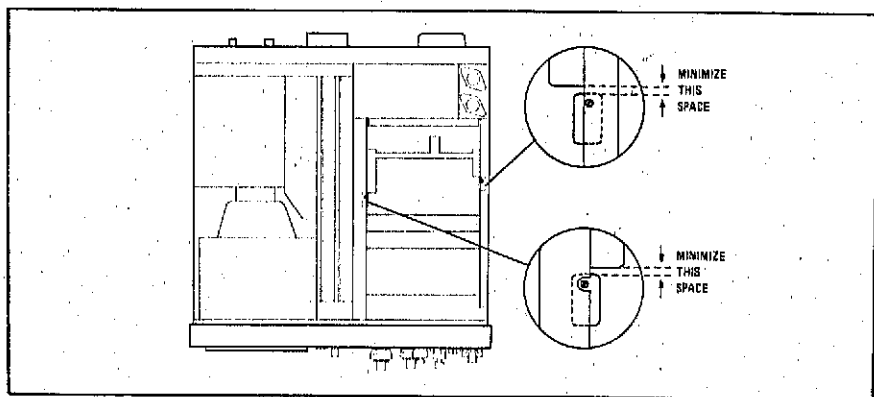

Figure 2-6. Side Stop Positioning
- Slide the spectrum analyzer plug-in (HP 8559A, 8558B, or 8557A) into the HP 853A and lock it into place. Install a side stop in both black plastic upper guides of the HP 853A, using the screws provided in the kit. Orient each side stop for the least amount of gap between the side stop and the plug-in guide rail (see Figure 2-6). Note that there are three possible ways to orient each side stop.